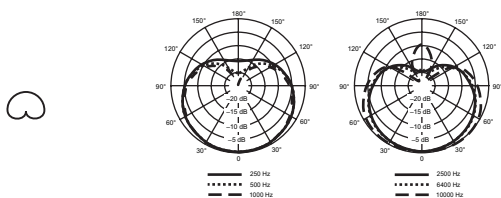

FIGURE 3. TYPICAL CARDIOID POLAR PATTERN
**Cardioid.** Is most sensitive to sounds directly in front of the microphone and is least sensitive to those in back. Cardioid is the most commonly used pattern in live sound applications. Its slightly wider pick-up pattern is more forgiving at picking up off-axis sound. See Figure 3.